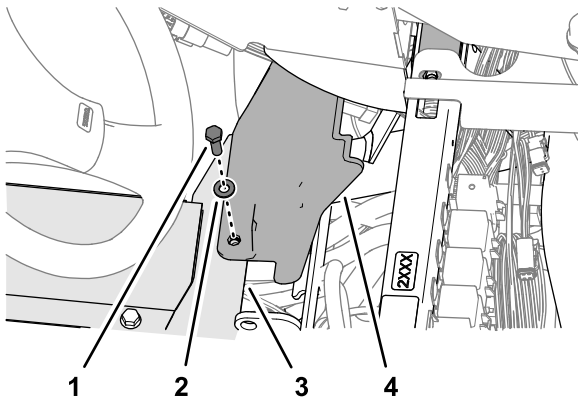

Figure 255
6. Align the hole in the right, front fender with the hole in the platform floor (Figure 255), and secure the fender to the floor with a capscrew (5/16 x 1 inch) and washer (5/16 inch).